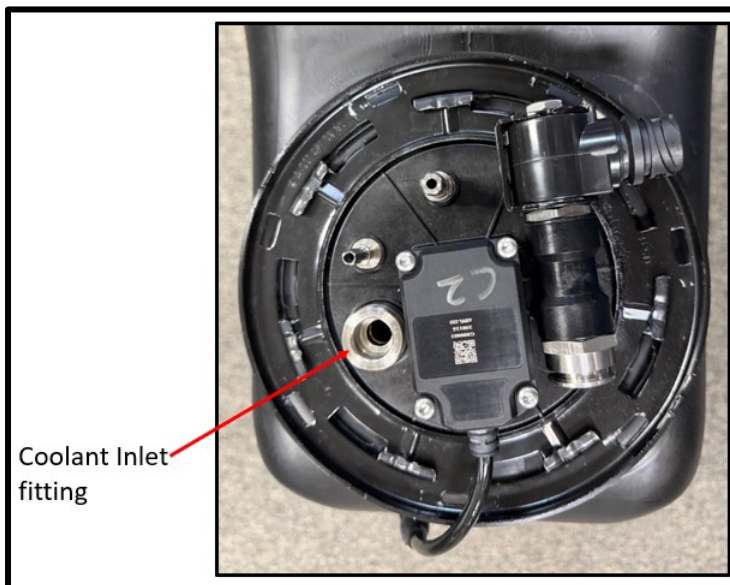

Figure 2.11 Coolant inlet fitting location
- 9) Install coolant inlet hose per OEM service procedure. Refer **Figure 2.11** for coolant inlet fitting location.